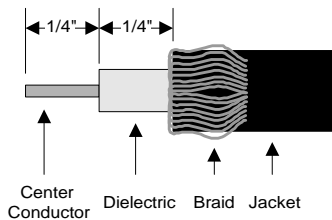

Figure 1
- A. Use the Digicon coaxial cable prep tool that exposes $\frac{1}{4}$ ” center conductor and $\frac{1}{4}$ ” dielectric. (Figure 1) [Digicon Prep Tool: PDI #202478 for RG59/6; #253003 for RG-7/11]
- B. Fold the cable braid back over the jacket away from the dielectric. Ensure that no part of the braid is in contact with the center conductor. (Figure 1)